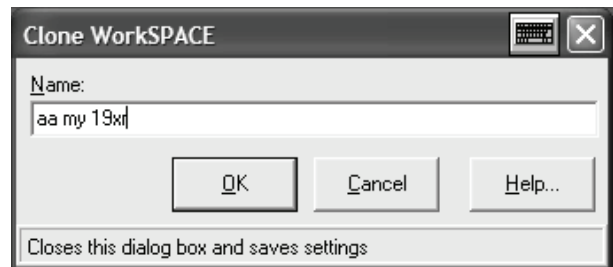

Fig. 21 — Enter New Workspace Name
21. The “Clone WorkSPACE” prompt is received. Enter the new workspace name of the default workspace for your local chiller. Enter using the onscreen expandable keyboard. Then press “OK” (Fig. 21).